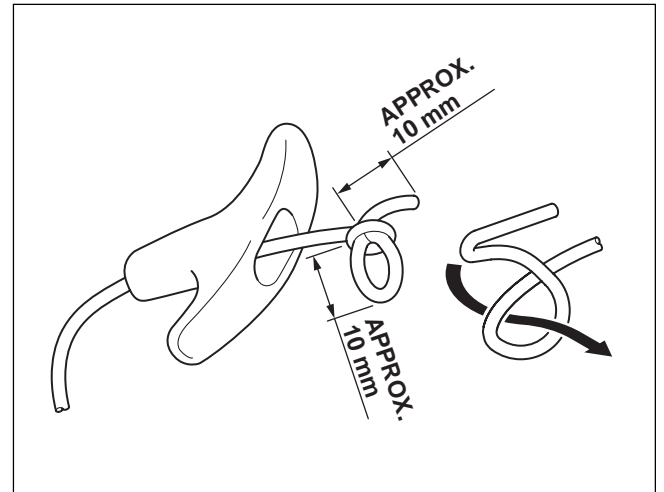

Fig. 9-3
(1) Pass the starter rope through the starter knob and make an overhand knot as shown in Fig. 9-3. Pass the opposite side of the starter rope from the starter case to the reel, and make a knot in the same way, then put the rope end securely into the rope housing in the reel. Then, apply a small amount of grease on the starter shaft and on the spiral spring.